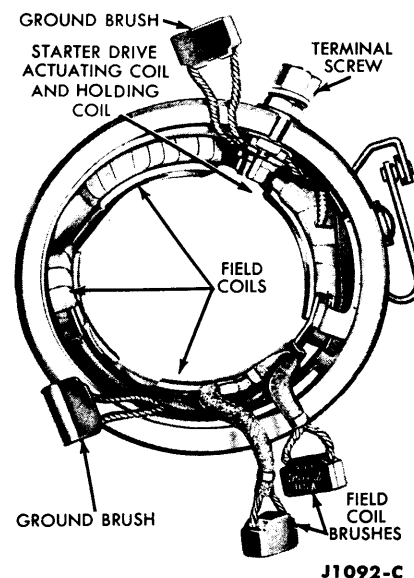

FIG. 4—Field Coil Assembly
1. Install the starter terminal, insulator, washers, and retaining nut in the frame (Fig. 4). Be sure to position the slot in the screw perpendicular to the frame end surface.
6. Position the new insulated field brushes lead on the field coil terminal. Install the clip provided with the brushes to hold the brush lead to the terminal. Solder the lead, clip, and terminal together, using rosin core solder (Fig. 4). Use a 300-watt iron.
8. Position the ground brushes to the starter frame and install the retaining screws (Fig 4).